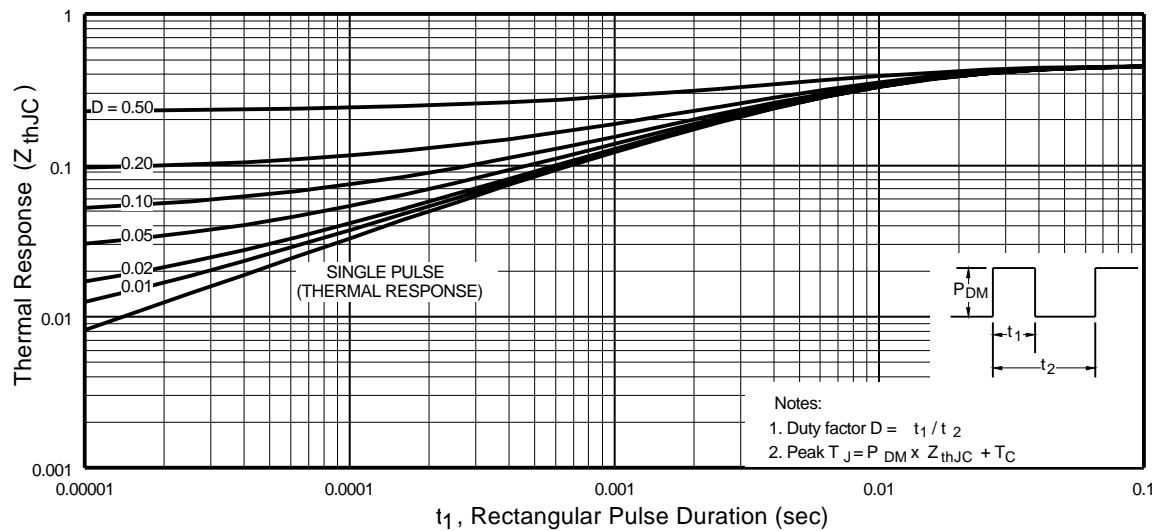

Fig 11. Maximum Effective Transient Thermal Impedance, Junction-to-Case
- ① Repetitive rating; pulse width limited by max. junction temperature. (See fig. 11).
- ② Starting $T_J = 25^\circ\text{C}$, $L = 0.11\text{mH}$
$Z_{thJC}(D, t_{av})$ = Transient thermal resistance, see figure 11)